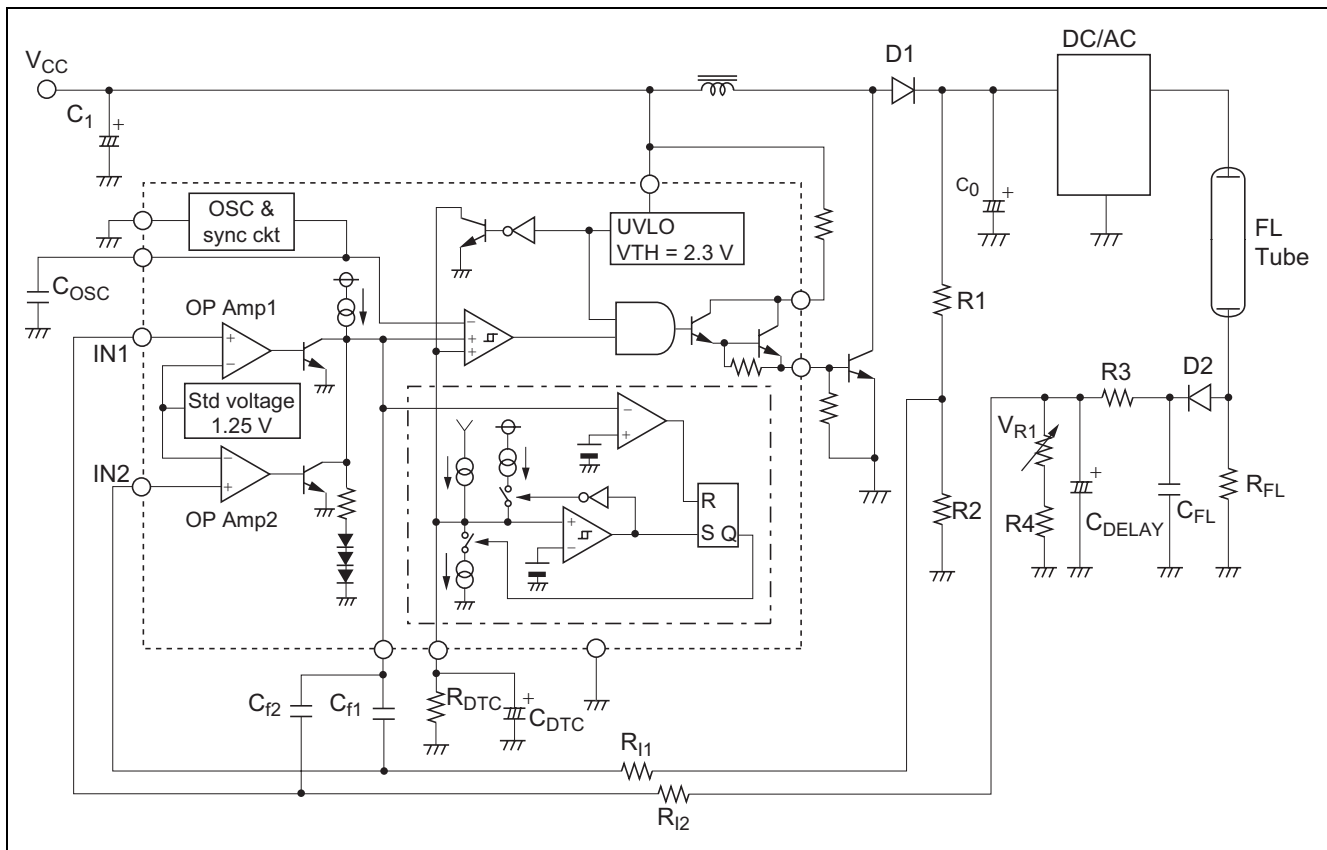

Figure 1 An Application of the Back Light Control Circuit
1) Soft Start (The peripheral circuit is shown in Figure 1)